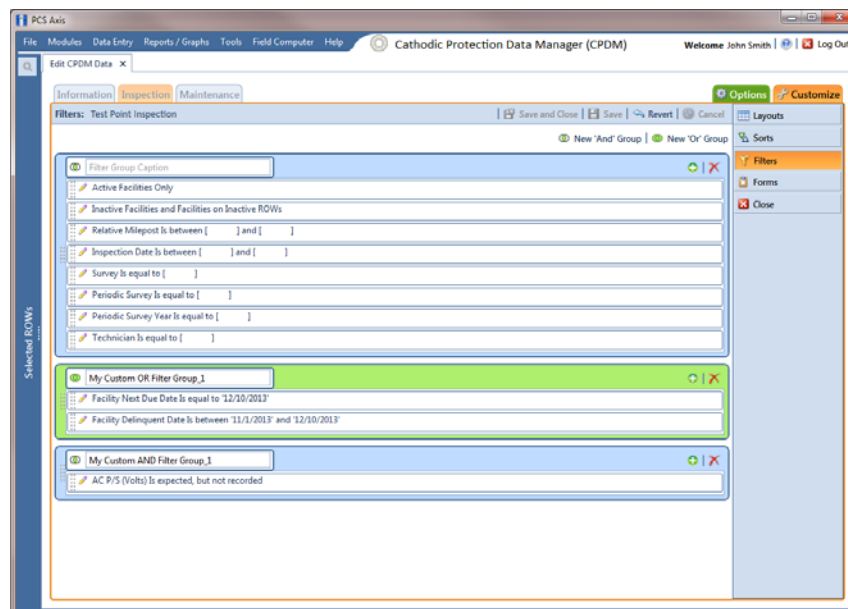

Figure 7-93. Filters
- 4 Click the **Customize** tab , then the **Filters** button  to open the *Filters* page (Figure 7-93).